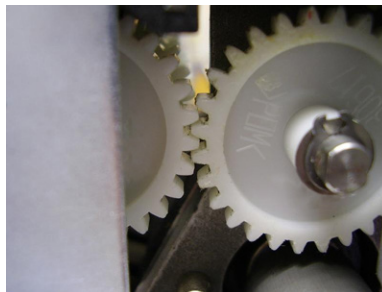
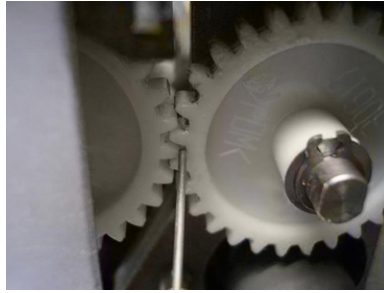

Figure 5 - Thread Feeder Gears
Figure 6 - Gage Pin
- Adjust the thread feeder assembly so that the thread feeder gear meshes with the gear on the Color Change, Take-Up Feeder Housing Assembly. See Figure 5. The maximum gap between the gears should be no more than .032" [0.81mm]. Gage Pin (PN: 32996) should not go between the two gears. See Figure 6.